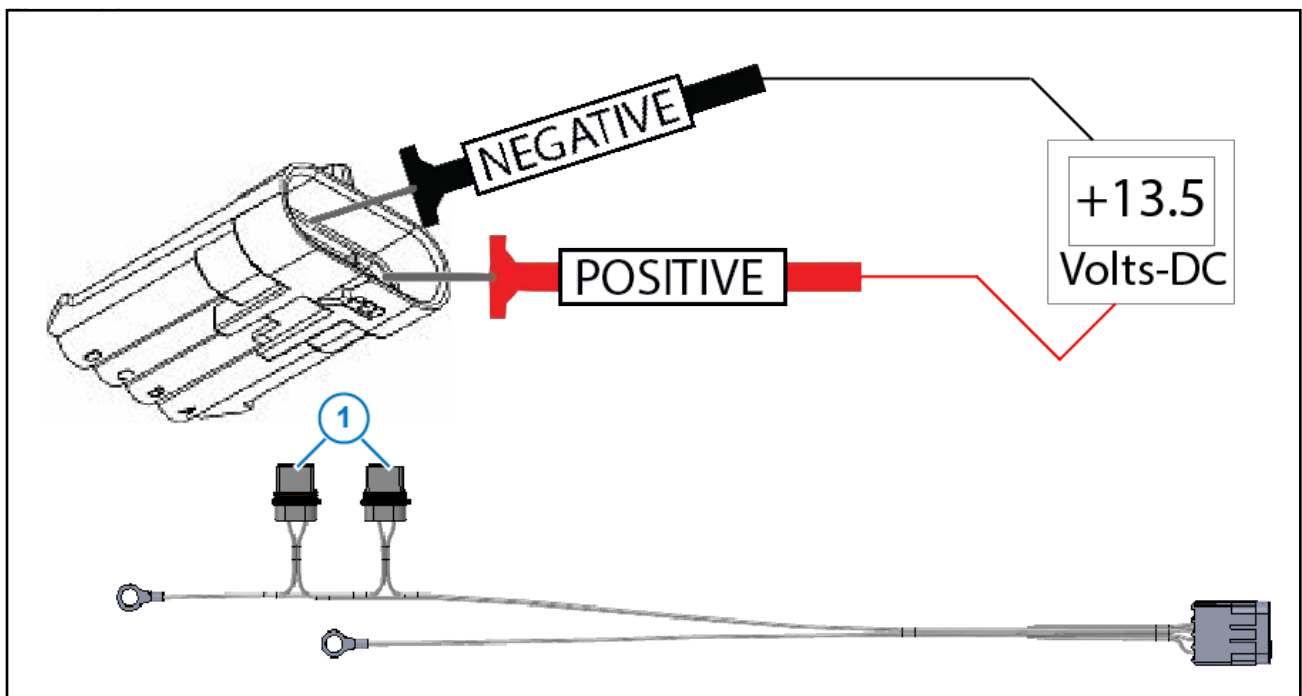

Figure 21: Battery Voltage Test
- The 20A fuses (Figure 21, Item 1) on the power harness